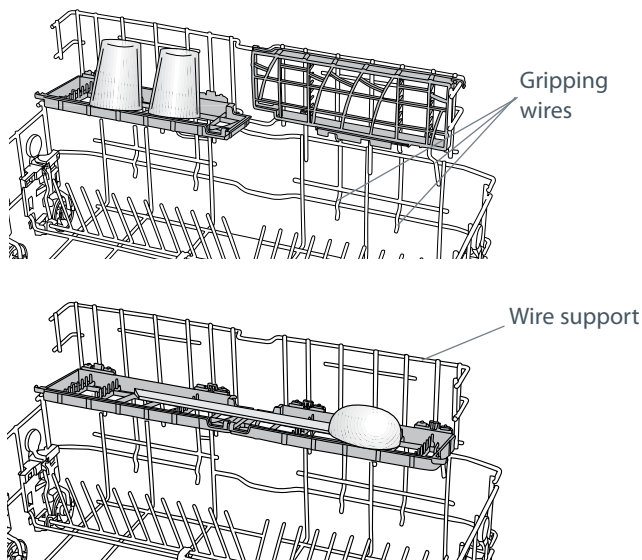

Fig. 12 Using the adjustable cup racks
- Use these racks for cups, glasses, long-handled cutlery and other utensils (see Fig.12). If you don't need them, you can easily fold them away. See the instructions below.
- 1 Disengage the gripping wires at the feet of the wire support (see Fig. 12).